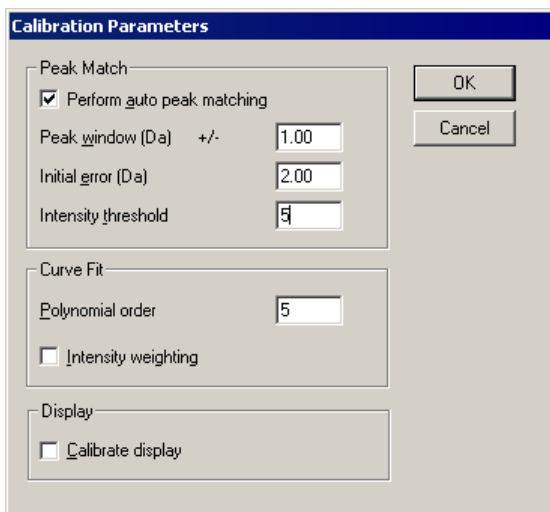

Figure 7-11 The Calibration Parameters Dialog
8. The calibration parameters can be altered by selecting **Edit** to invoke the **Calibration Parameters** dialog (Figure 7-11). Set the **Intensity Threshold** to **5%**. This will mean that lower intensity peaks will not be included in the calibration and will generally give a better fit.